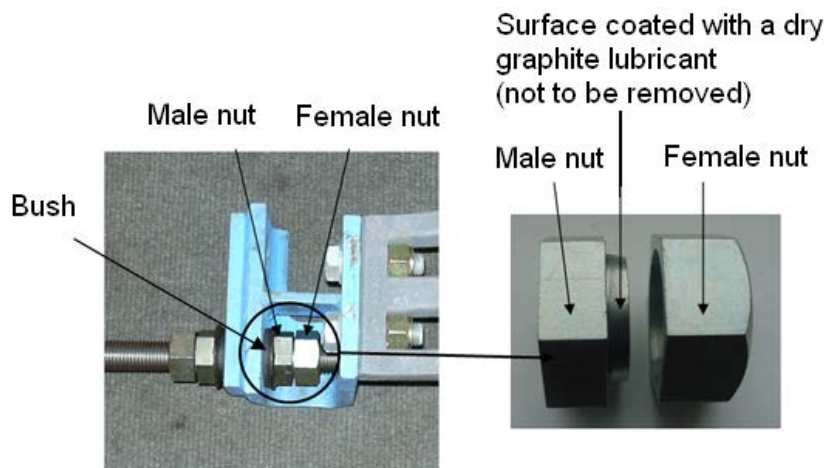

Figure 20 – Male and Female Hard Lock Nuts
- M30 lock nuts (catalogue no. 003/035016) used to secure the adjustable stretcher bar to its bracket (see figure 20). These can be identified as the female nut has 'M30' stamped on the top surface